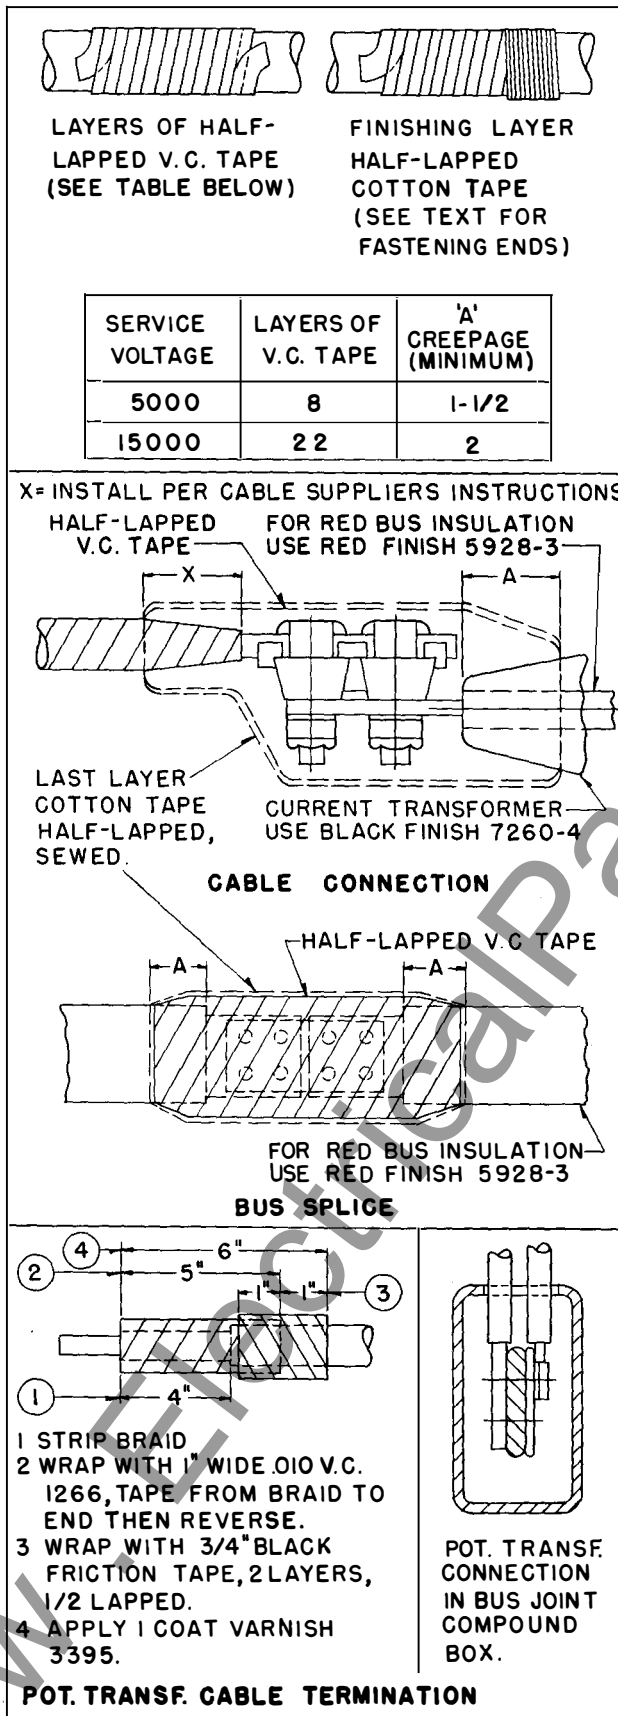

FIG. 27. Taping Instructions
6. All other joints not insulated with compound boxes, including flexible connectors, should be taped in accordance with Figure 27 and taping instructions which follow. Tape and varnish are included with the switchgear shipment for this purpose.
Wrap with half-lapped layers of .010 inch varnished cambric tape (Westinghouse No. 1266 tan treated fabric) applying as many layers as given in the Table Figure 27. Apply a coat of number 3395 clear insulating varnish between layers.